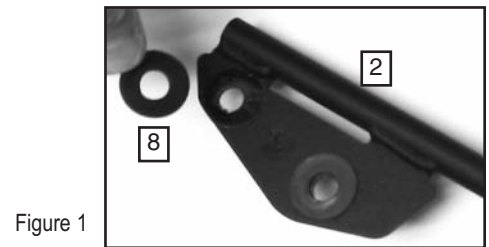

Figure 1
3. Install one Washer (8) over each hole on the back side of bracket. **Figure 1**